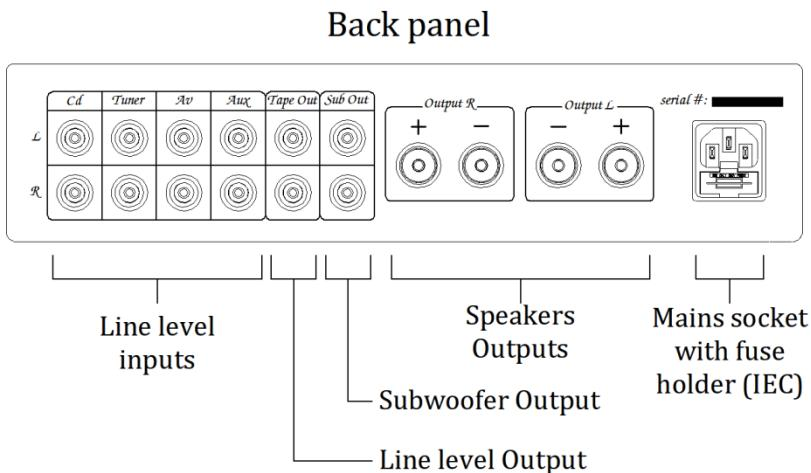

Figure 3
Connect the signal sources (CD player, tuner, AV receiver) to the RCA terminals on the back of the unit (*Figure 3*). These inputs require a line level signal.
**Line level outputs:** the unit provides two line level outputs (*Figure 3*); the Tape Out provides a signal that is identical to the selected input source, the Sub Out provides a signal that is proportional to the listening volume level. This output enables the connection to an active Subwoofer unit.
**Speakers:** Connect the speaker cables to the output terminals of the unit, respecting the polarity: red = positive, black = negative (*Figure 3*).
Mains fuses (type 5x20mm slow-blow) are located in the IEC mains socket located on the back of the unit (*Figure 3*). The correct value is indicated on the back of the rear cover and in the technical specifications at the end of this manual.